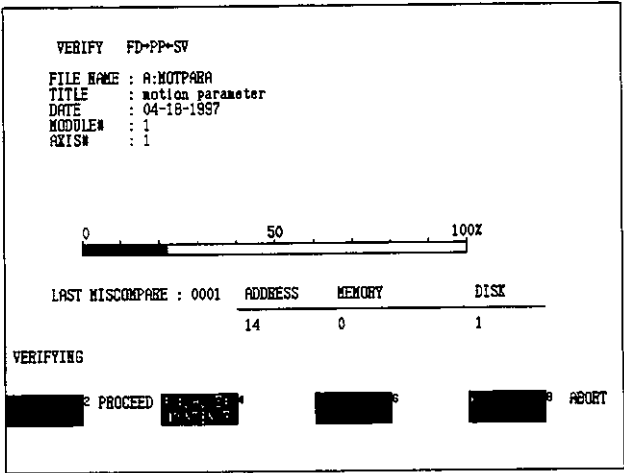

Figure 6.355
- (2) If there is a discrepancy between the floppy disk and the Servopack, the screen will stop and a warning will be sounded. If ↑ Pause/Continue ↑ is set to Continue, the operation will continue to its completion. If it does stop, select Proceed to reactivate it.
- (3) If the file names are the same but the contents are different, a verification error will occur. (See Figures 6.355 and 6.356)
Table 6.4 When an Error Occurs as in Figure 6.355